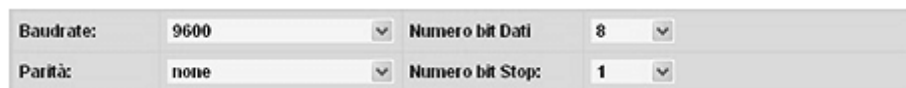

Figure 17 - Mask communication parameters
- **Advanced:** selecting **Advanced** you can access the communication parameter mask, see Figure 17.